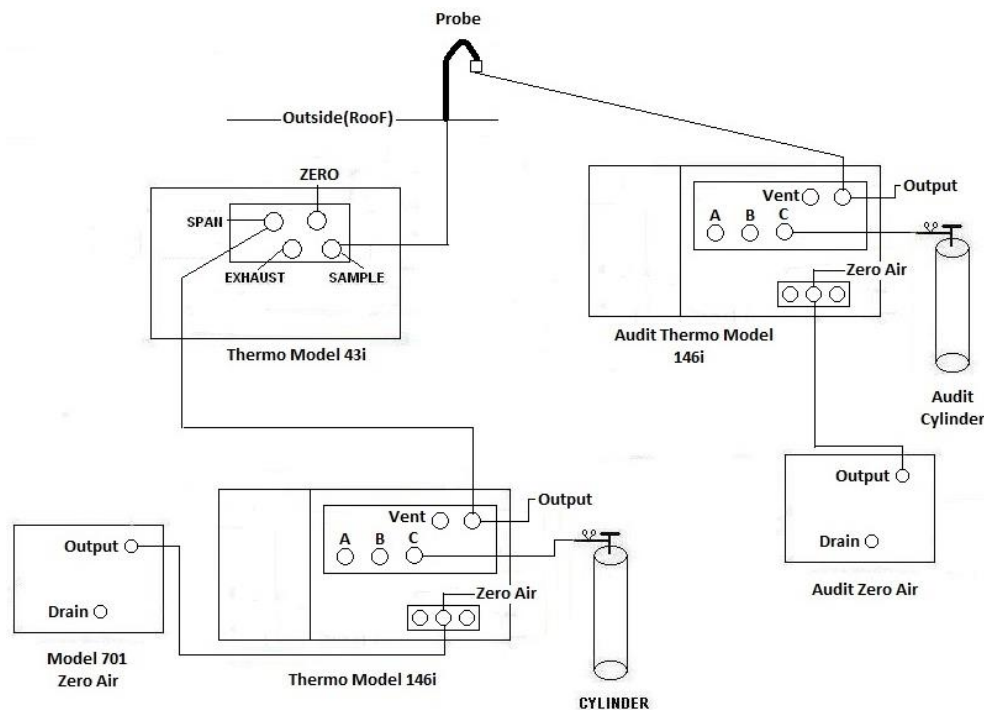
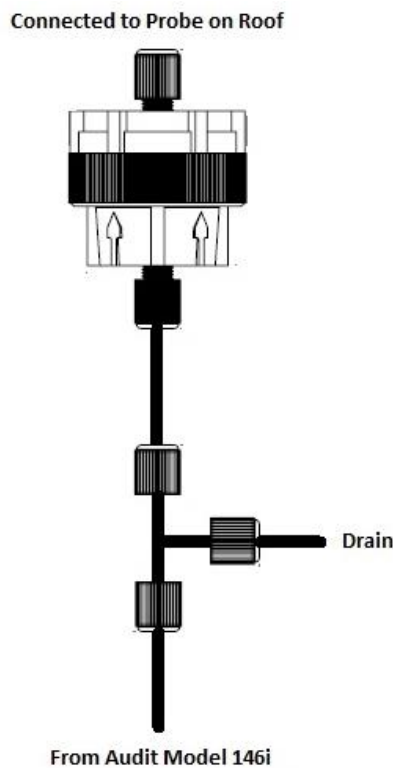

Figure 5: Audit Plumbing Diagram for Monitoring Setup
Figure 6: Funnel and Probe Audit Setup Diagram
D) Connect the audit calibrator, cylinder, and zero air system as shown in Figure 5: Audit Plumbing Diagram for Monitoring Setup. Connect output of audit calibrator to probe funnel on roof as shown in Figure 5. The probe funnel setup should be connected as shown in Figure 6: Funnel and Probe Audit Setup Diagram. Perform the following audit calibrator checks:
33. Added Figure 5: Audit Plumbing Diagram.
34. Added Figure 6: Funnel and Probe Audit Setup Diagram.